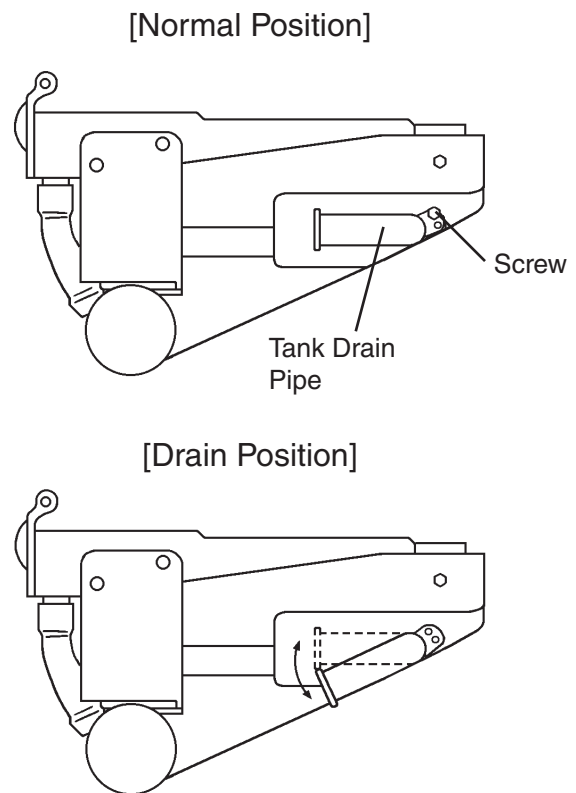

Fig. 7
- 3) Remove the screw and then move the tank drain pipe to the drain position. See Fig. 7.
- 10) Move the tank drain pipe to the normal position and then secure it with the screw. See Fig. 7.